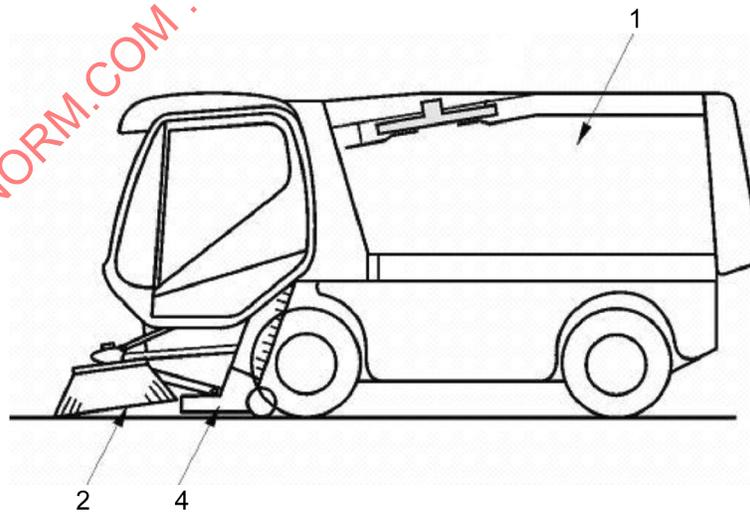

FIGURE 1B - INTEGRAL CHASSIS CONFIGURATION SWEEPER
4.2 Integral chassis sweepers other than in paragraph 4.1, some of which have a maximum transport speed less than 32 km/h and some of which are designed to transport at highway speeds (Figure 1b).